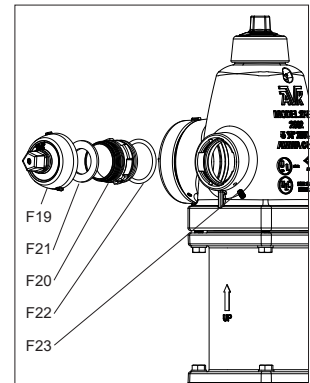

Fig. 6A
1. Remove one of the hose caps (F19, fig. 6A) and fill the hydrant with water.
2. With the hydrant in the closed position, place the palm of one hand over the open hose nozzle (F20, fig. 6A). As the water drains from the hydrant it should create a noticeable vacuum indicating proper drainage.